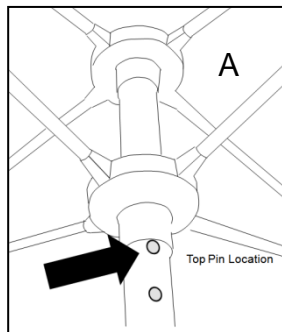

Figure 2
Open umbrella canopy (A) – Slide pin into the highest position so the canopy is now open and secure. See Figure 2.